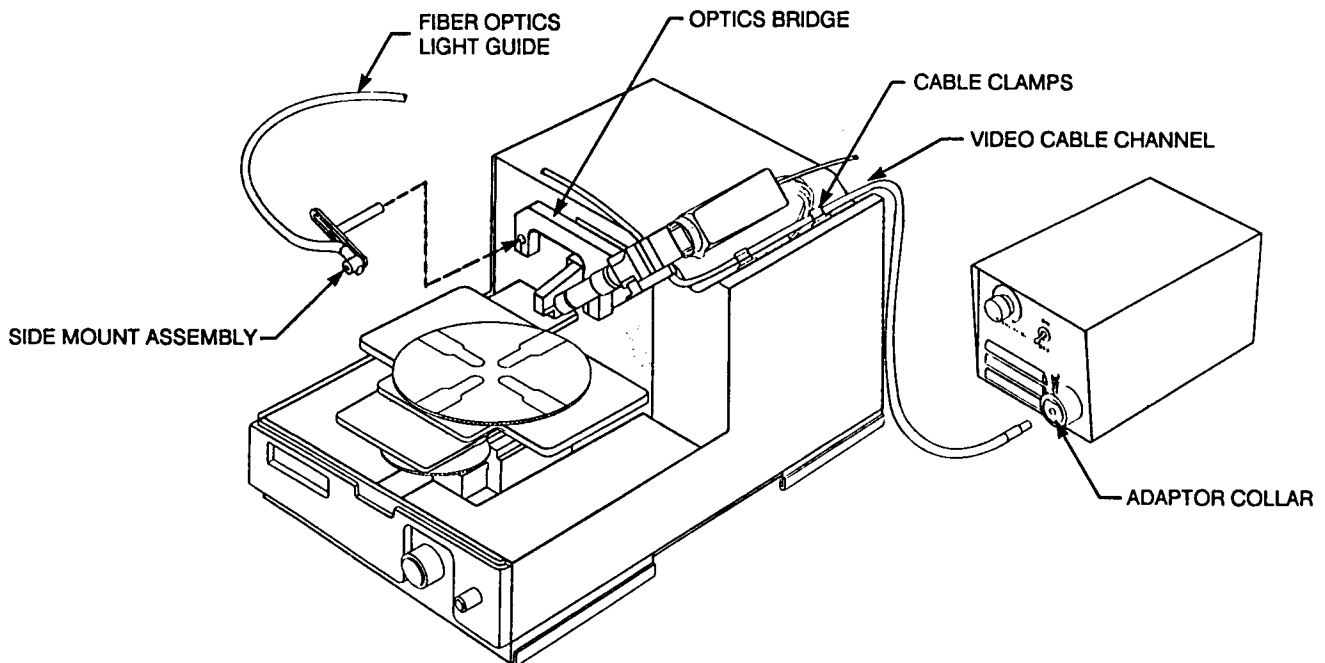

Figure D-2. Side Mount Assembly
5. Install the fiber optics side mount assembly as shown in Figure D-2. Retighten the set screw on the side of the optics bridge.